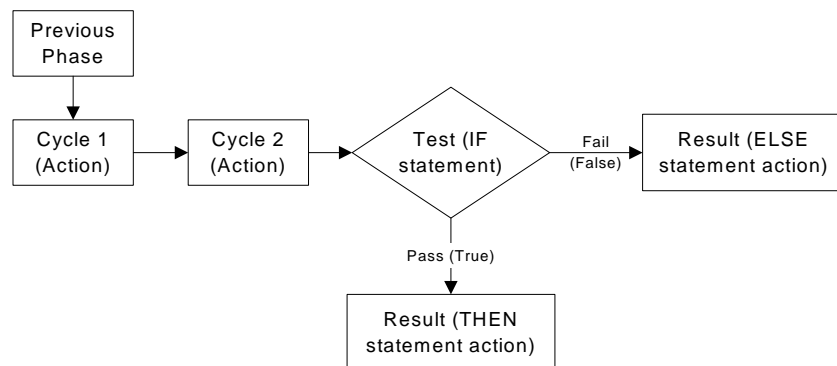

Figure 10: Custom program process, phases 1 through 5
- Each of the first five phases consists of two cycles, a test, and the TRUE and FALSE statements, as shown in the flow chart in Figure 10.